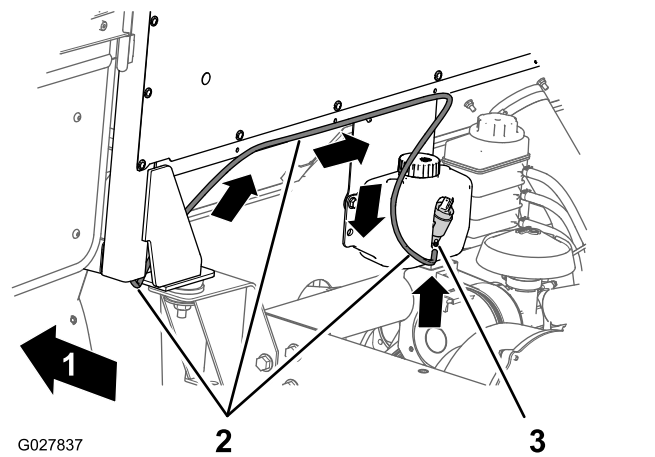

Figure 23
4. Route the free end of the hose across the back of the cab, and align the hose with the barbed fitting in the washer pump (Figure 23).